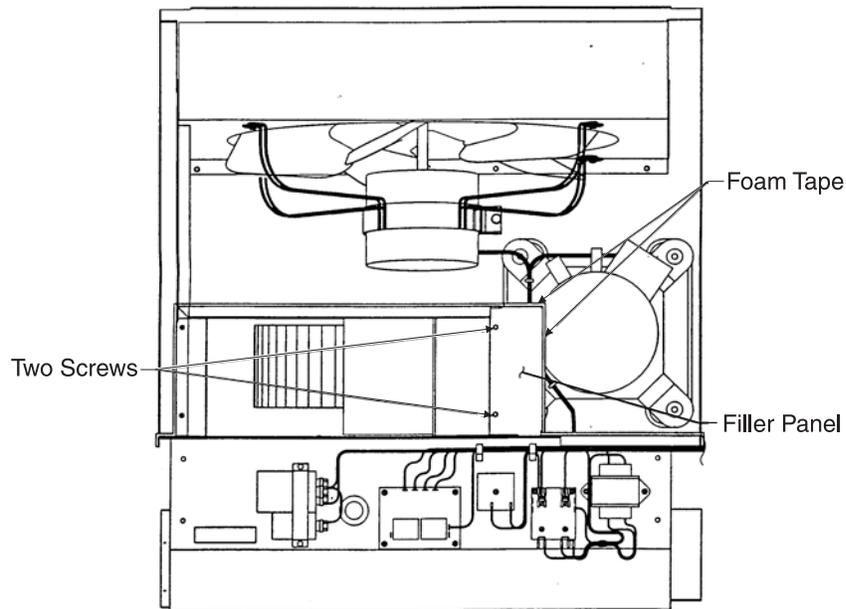

Figure 2
3. Remove the two screws on the top right side of the circulating air blower support as facing the coil. Install the filler panel by re-installing the two removed screws through the filler panel (see Figure 2).